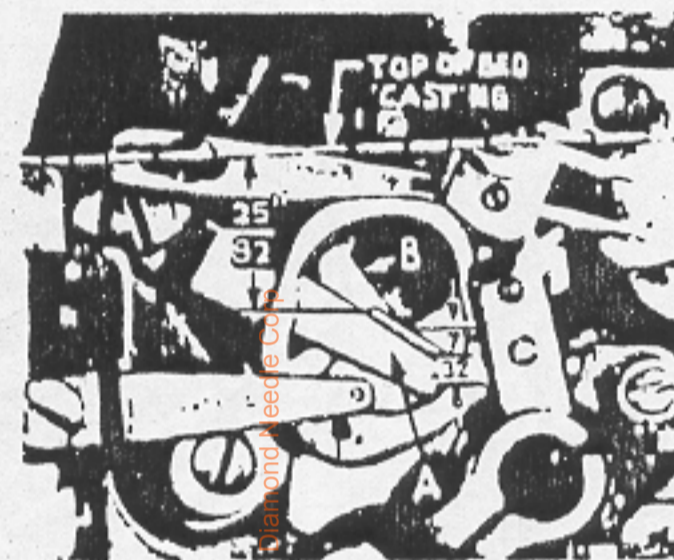
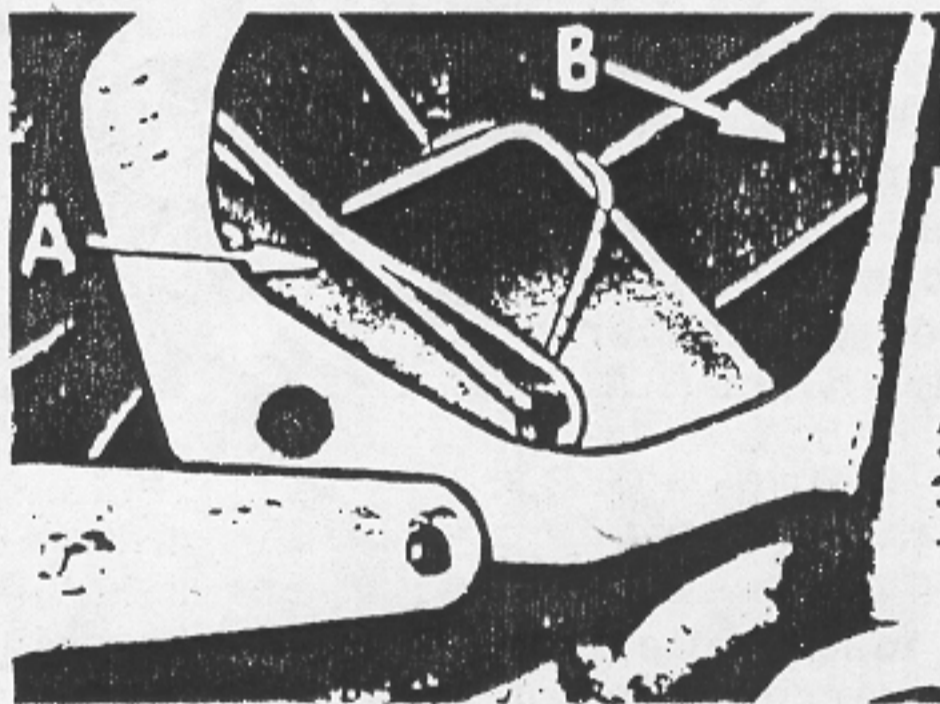
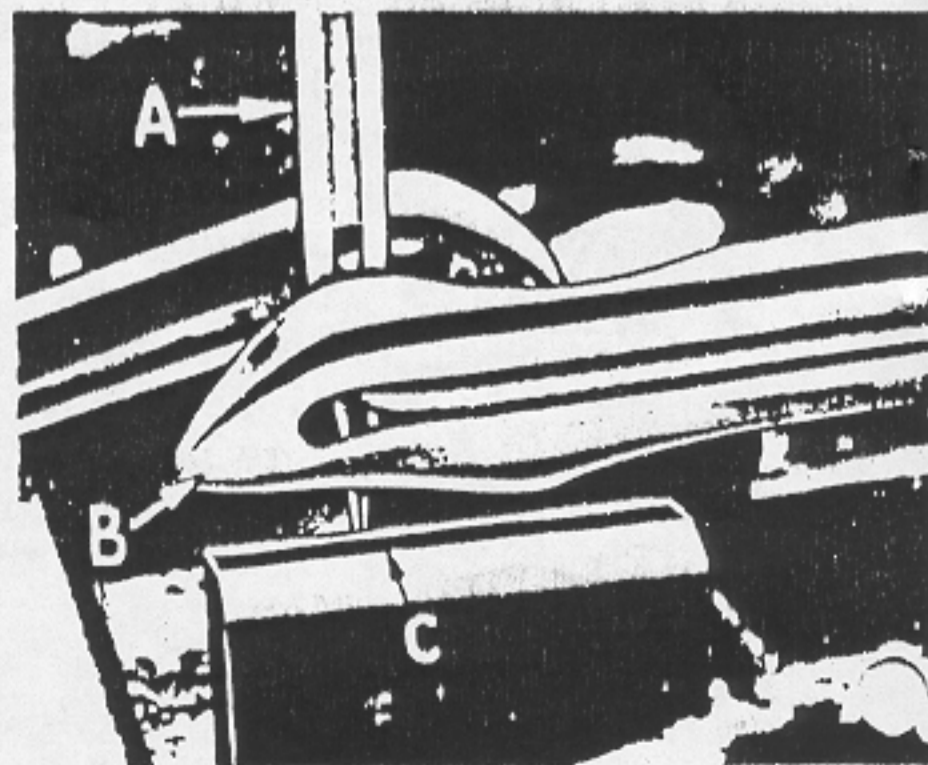

Fig. 20
Fig. 23
Fig. 24
If looper thread casting-off point has not been timed refer to the paragraph "Timing 401 Stitch Looper Thread Cast-off". Set the looper thread cast-off eyelet (A, Fig. 20) 7/32 inch below crotch of cast-off blade (B). Pull several feet of thread through the looper to provide slack while checking the tension. Turn handwheel in operating direction until the needle is totally raised. Pulling the thread straight toward the operator, over the looper thread eyelet, adjust tension with the knurled nut (AA, Fig. 1) to 1 1/2 to 2 ounces.
The tension of the looper thread at this position will be determined by the nature of the material being sewn and the operation performed. To increase the amount of looper thread pull-off move the looper thread cast-off blade (B, Fig. 23) slightly down. Use reverse procedure to obtain less looper thread pull-off. There is a notch in the cast-off blade to facilitate this movement with a screwdriver.
When the 401 looper thread cam is correctly positioned on the needle arm shaft the cast-off corner will be  $25/32$  inch vertically below top surface of the bed when the needle arm is in its highest position (Fig. 20). This adjustment is made at the factory, but if checked and moved, it must be observed that the cam functions as a thrust collar for the needle arm shaft and correct thrust must be maintained. If this setting is correct the casting-off may be timed. On the down stroke of the needle (A, Fig. 24), looper thread should be cast-off when the eye of the looper (B) brings the looper thread against the left side of needle (Fig. 24). At this position the point of the needle will be approximately  $1/64$  inch below the top of front needle guard (C). To change the time of casting-off, move the cast-off blade (B, Fig. 23) up or down, rotating it about its holding screw.